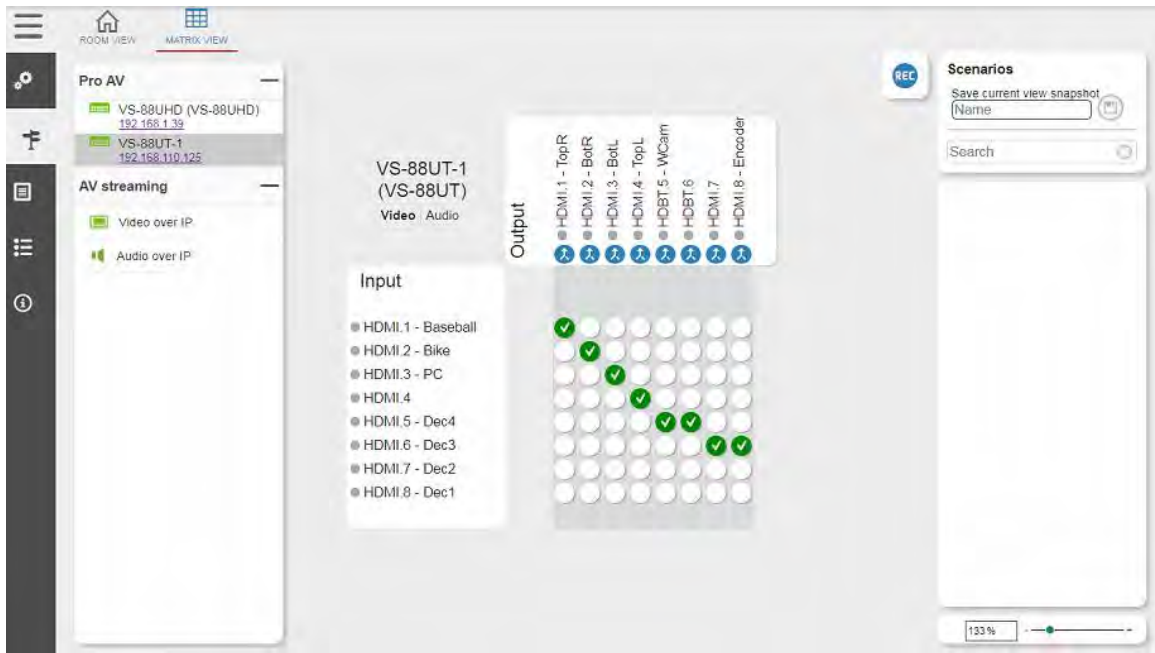

Figure 112: Matrix View – Pro AV Video Routing
4. Click an empty cross-point  to connect an input to an output (for example, in Figure 112 HDMI 1 input is routed to HDMI 1 output but not to HDMI 2 output).